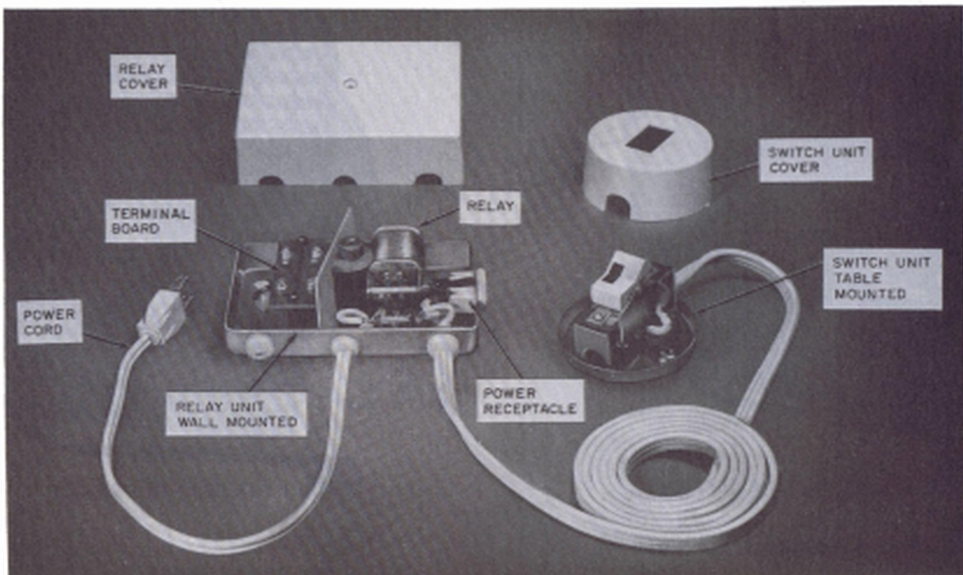

Fig. 7—KS-20614, List 1 Relay Switch
3.11 KS-20614, List 1 Relay Switch (Fig. 7 and 28)